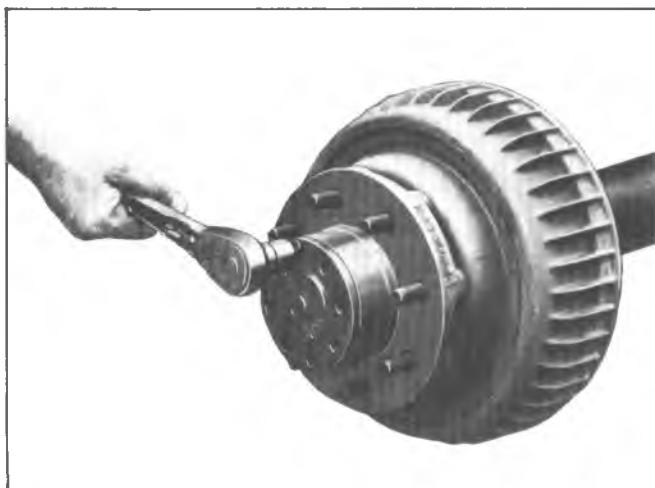

Fig. 64—Removing Flange-to-Hub Bolts
1. Remove bolts and lock washers that attach the axle shaft flange to the wheel hub. See figure 64.